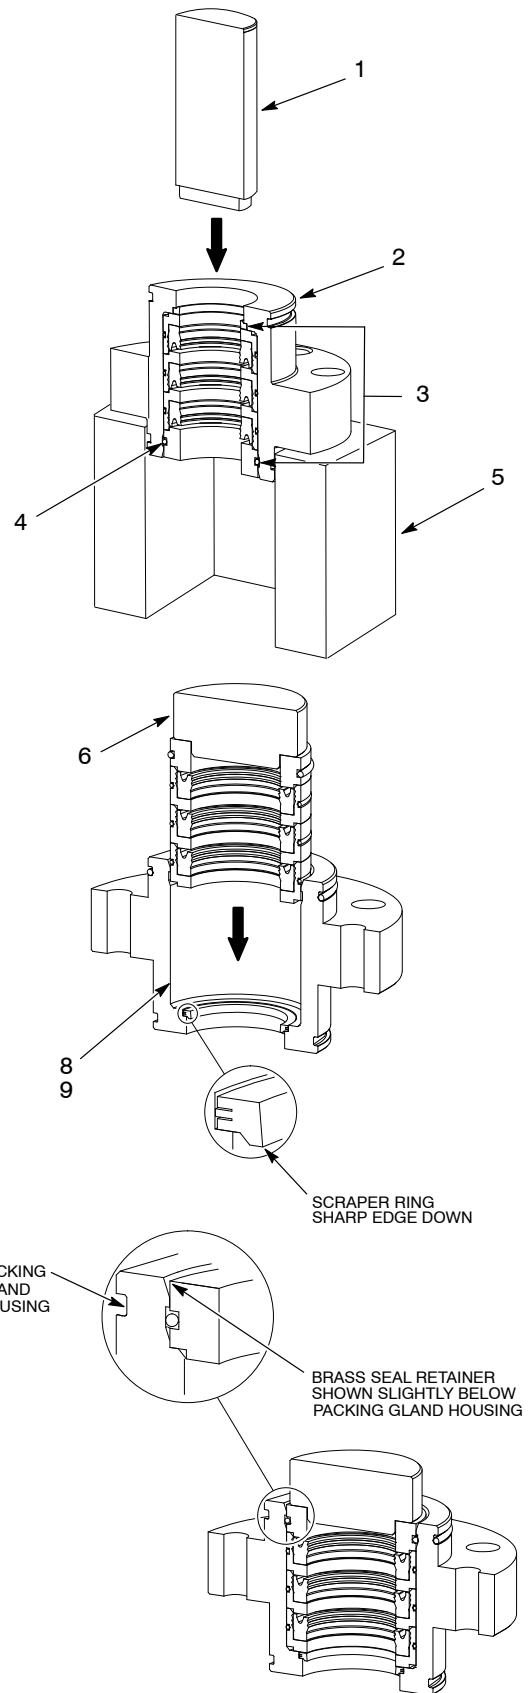

Figure 2 Replacing the Packing Gland Internal Parts
1. See Figure 2. Place the packing gland housing (2) on a fixture (5) with the solvent cup end facing up.